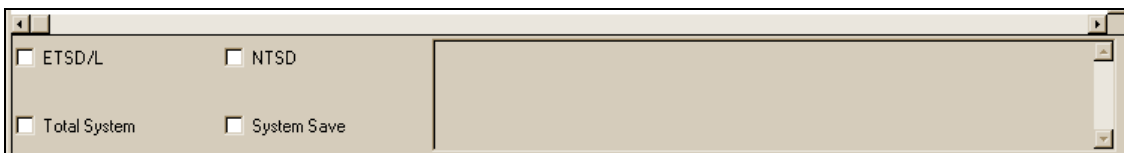

Figure 72
**CODE** The **CODE** pushbutton changes the Definition Bar to a mode where the user can set up the Car Call Code Entry function. Refer to Figure 72. The Code Entry function is where the user can gain access to a landing by entering a code using the Car Call pushbuttons on the Car Panel.
Looking at Figure 72 there are several pushbuttons that appear when the **CODE** pushbutton is selected. The **CHANGE** pushbutton is used to change the value of any of the selected buttons on the Definition Bar. The **COUNT** pushbutton(CEC) allows the user to view and/or change the value representing how many digits are in the Entry Code. The **TIME** pushbutton(CET) allows the user to view and set the allotted time for the complete entry to occur once the first code button has been selected. The code pushbuttons 0 through 9(CE0 – CE9) represent the code value sent to the elevator using the assigned Car Call pushbutton in the car panel. For example: if Code 0 has the value 5, the 5th floor Car Call button in the car panel would transmit a 0 as part of the Call Entry Code when pushed.